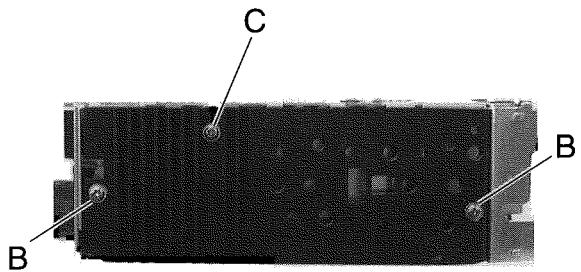
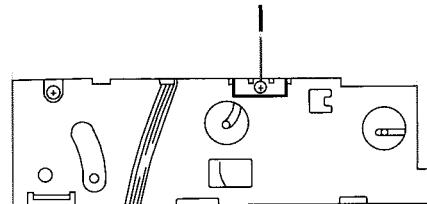

Fig 6
Fig.7
■ Removing the main board (with rear panel) (See Fig. 6, Fig. 7)
■ Removing the rear bracket (See Fig. 7)